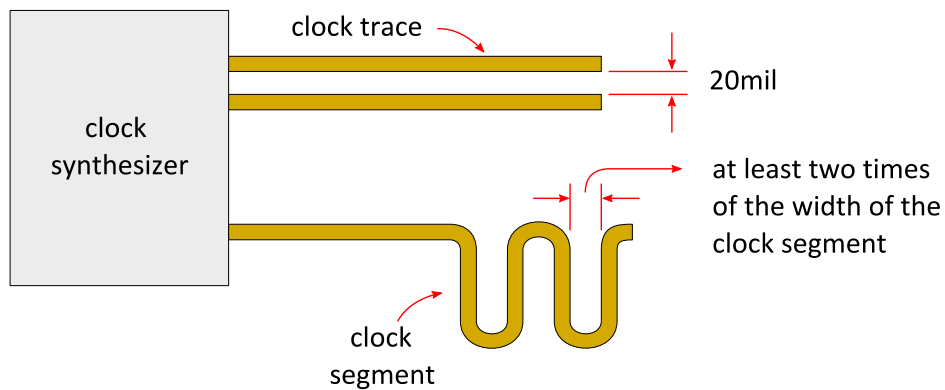

Figure 10: Suggested clock trace spacing
- The minimum space between one clock trace and adjacent clock traces is 20mil. The minimum space from one segment of a clock trace to other segments of the same clock trace is at least two times of the clock width. That is, more space is needed from one clock trace to others or its own trace to avoid signal coupling (see Figure 10).